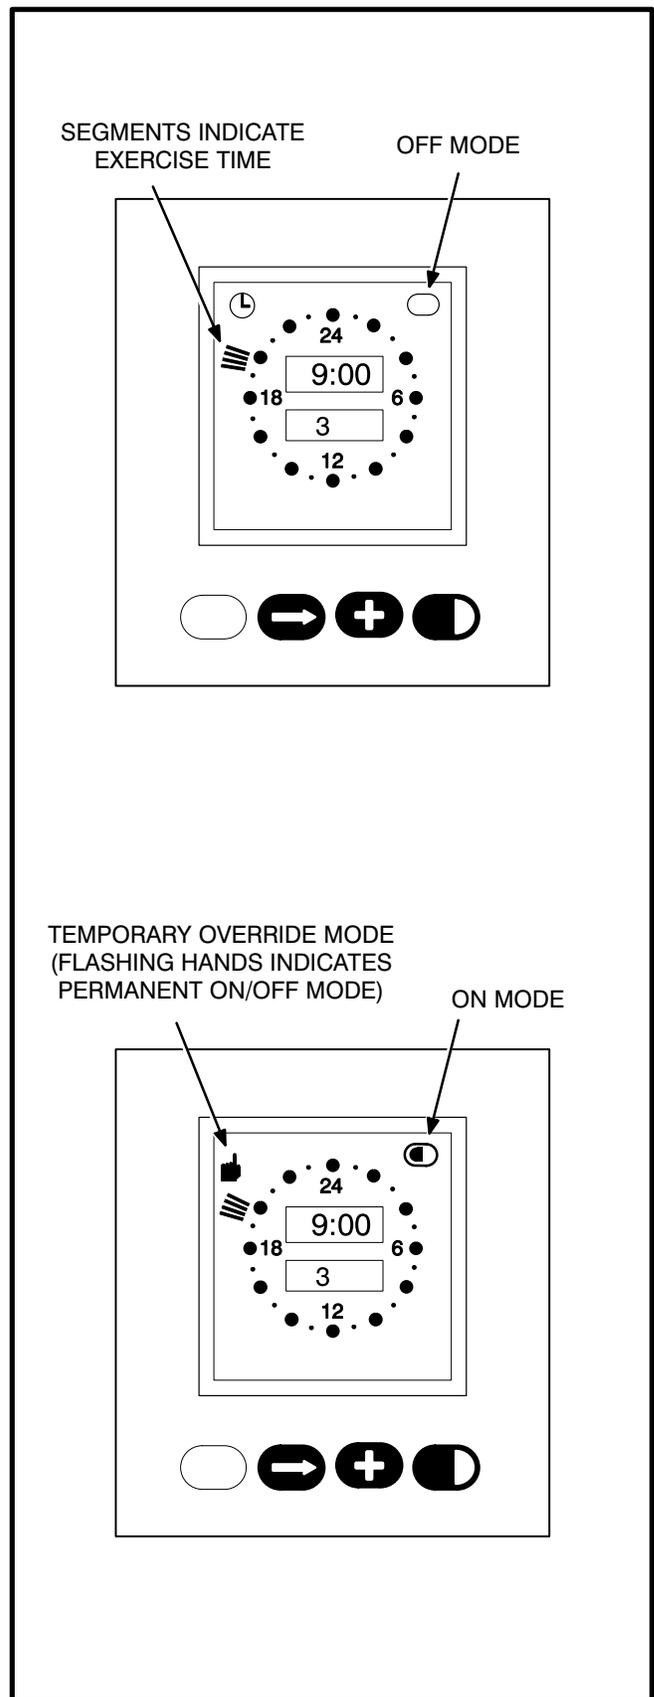

FIGURE 3-7. EXERCISER CLOCK ON/OFF MODE
- Press the plus (+) button to increment the **Start** time of the exercise program. The display will show midnight (0:00). Note that by holding the (+) button down, the minutes will increment in 15 minute intervals. When the **Start** time is reached, press the set (**⏻**) button (On Mode is indicated, Figure 3-7).
Then increment the time with the plus (+) button to the desired **Stop** time. When the **Stop** time is reached, press the set (**⏻**) button (Off Mode is indicated, Figure 3-7).
Note that the exercise time is indicated by a band of segments illuminated around the outer ring of the clock from the start to the stop time Figure 3-7).
During the exercise period, the ON mode is indicated in the ellipse in the upper right corner of the display (Figure 3-7).
With the normal source connected and available, pressing the set (**■**) button once will initiate a test sequence. A hand will be displayed in the upper left corner of the display and the On mode will be indicated inside the ellipse in upper right corner of the display (Figure 3-7). Pressing the set (**■**) button again will stop the test and the ellipse will indicate the OFF mode.
To temporarily override an activated exercise program, momentarily press the set (**■**) button. A small hand will appear in the upper left corner of the display (Figure 3-7). The current program will be overridden and the clock will automatically set for the next program. Momentarily pressing the set (**■**) button again will return to the current program.